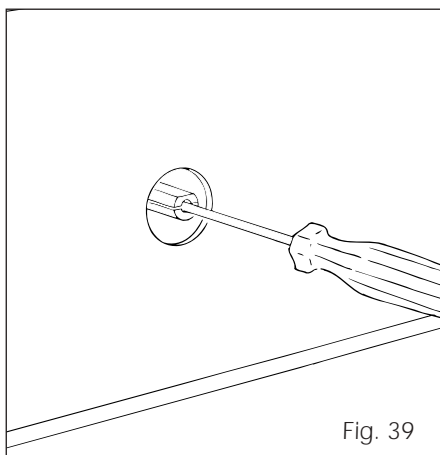

Fig. 39
- With a small flat screwdriver turn the screw inside the tap rod to the correct regulation (fig. 39).